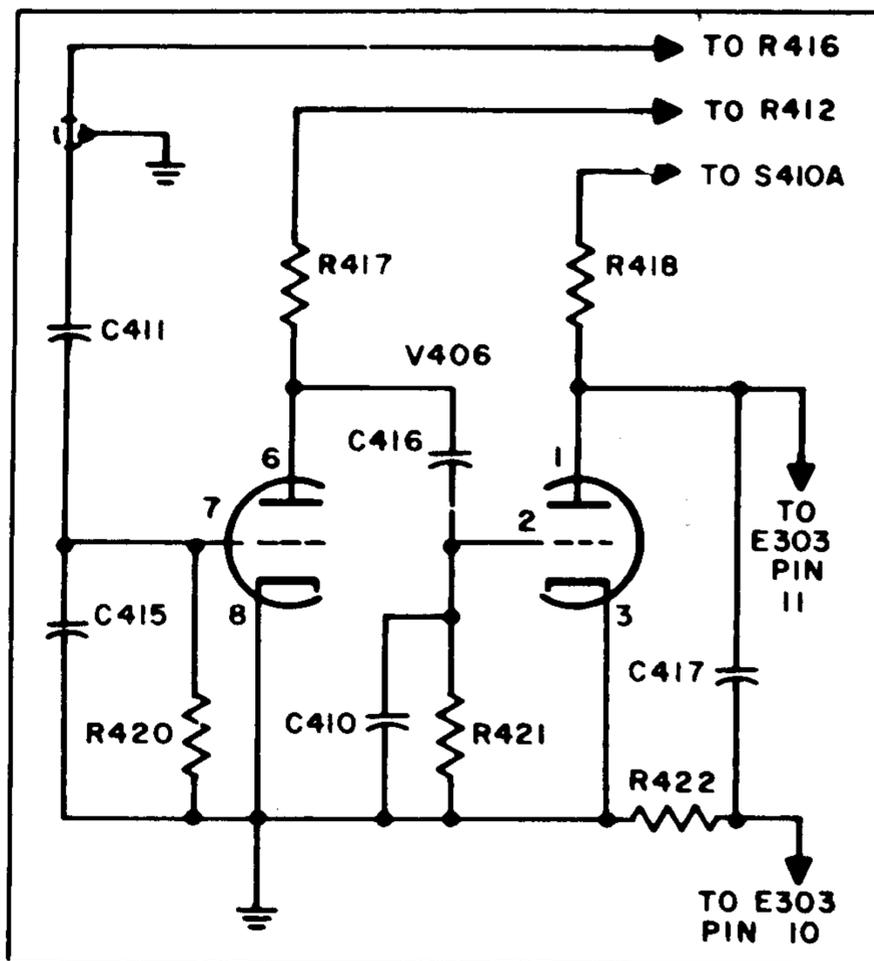

Figure 4-8. Audio Amplifier, Simplified Schematic Diagram
(8) AUDIO AMPLIFIER. - A two-stage audio amplifier V406 is used to amplify the audio output of the mixer stage. (See figure 4-8.) Plate voltage is applied to the amplifier only when S401 is in the CAL position. The output of V406B is applied across ZERO BEAT indicator I303 and to PHONES jack J301.
(9) GROUNDED GRID AMPLIFIER-DOUBLER.